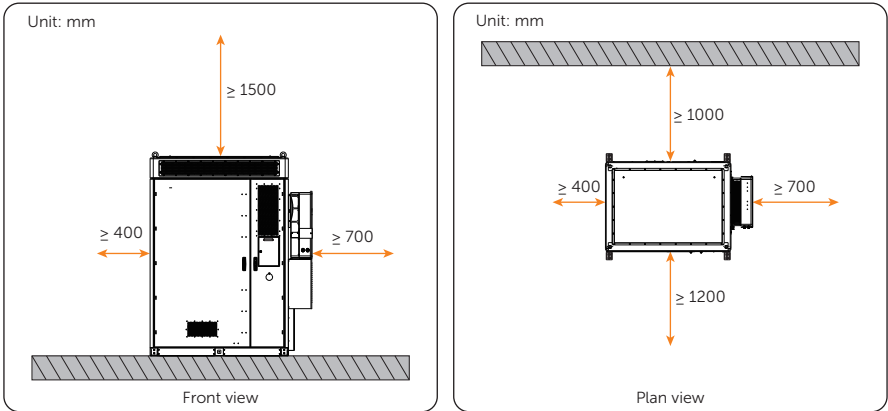

Figure 4-9 Single cabinet
- Single cabinet (see Figure 4-9)